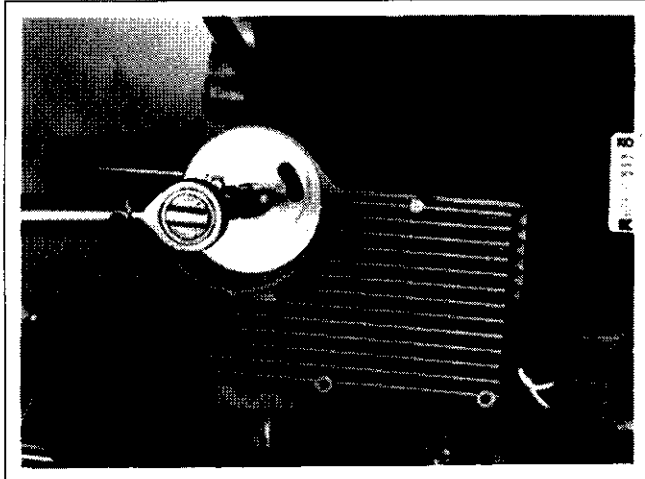

Figure 11-80. Tightening Oil Filter Nipple.
1. Reinstall the oil cooler on CH22 and CH25 models. Install new gasket between cooler and closure plate. Torque nipple adapter to **54.2 N-m (40 ft. lbs.)**. See Figure 11-80.